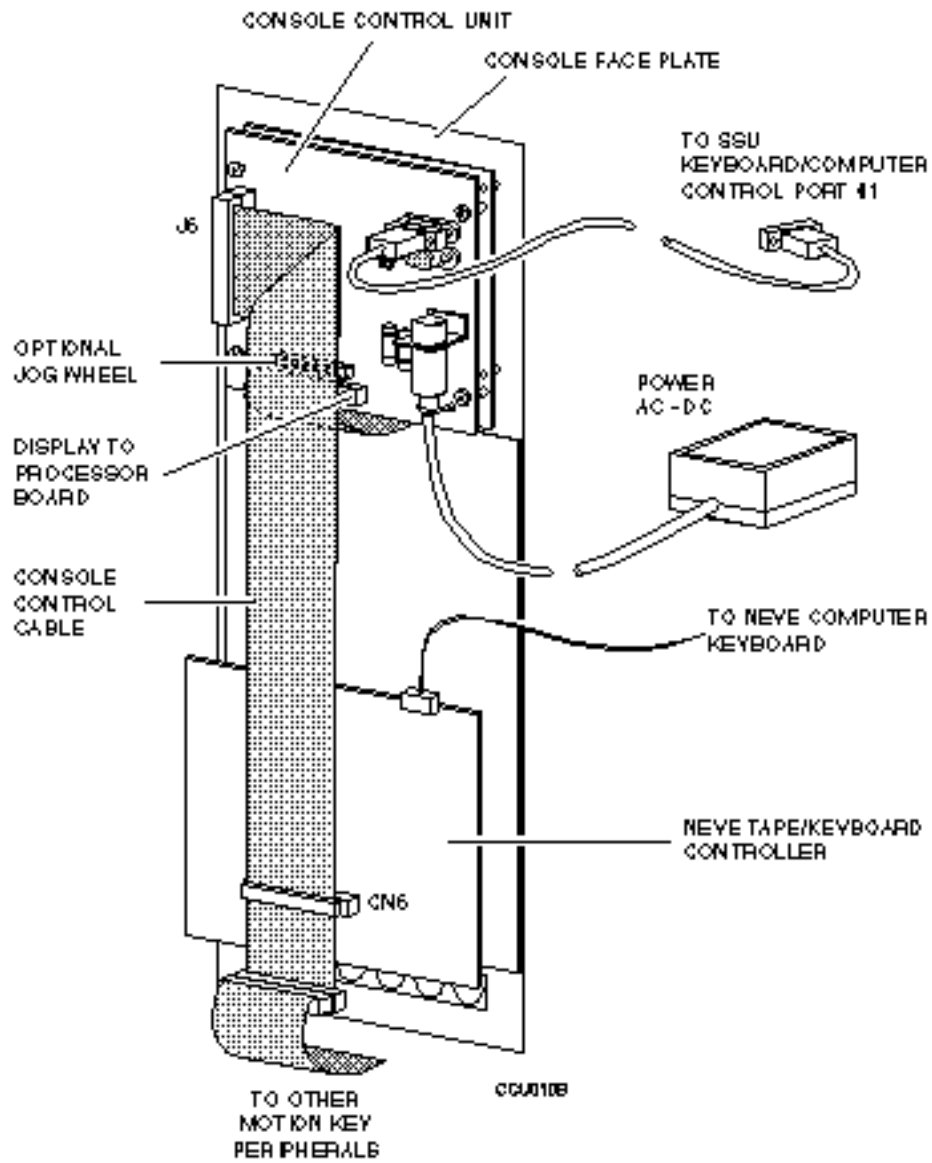

Figure 3-7. Cable Connections
1. Connect the 40-pin ribbon cable between the CCU and the Neve motion keys as shown in Figure 3-7.